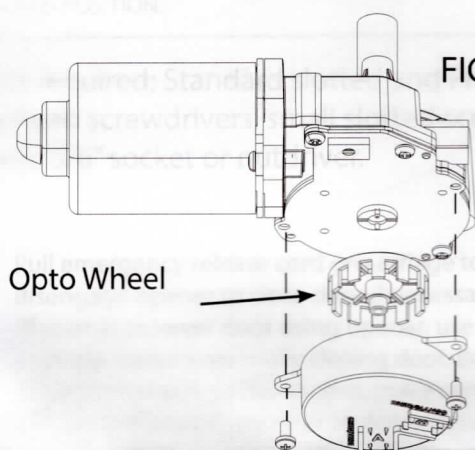

FIG. 4.
11. Remove the 2 opto cover screws from bottom of motor and discard opto assembly. FIG. 4